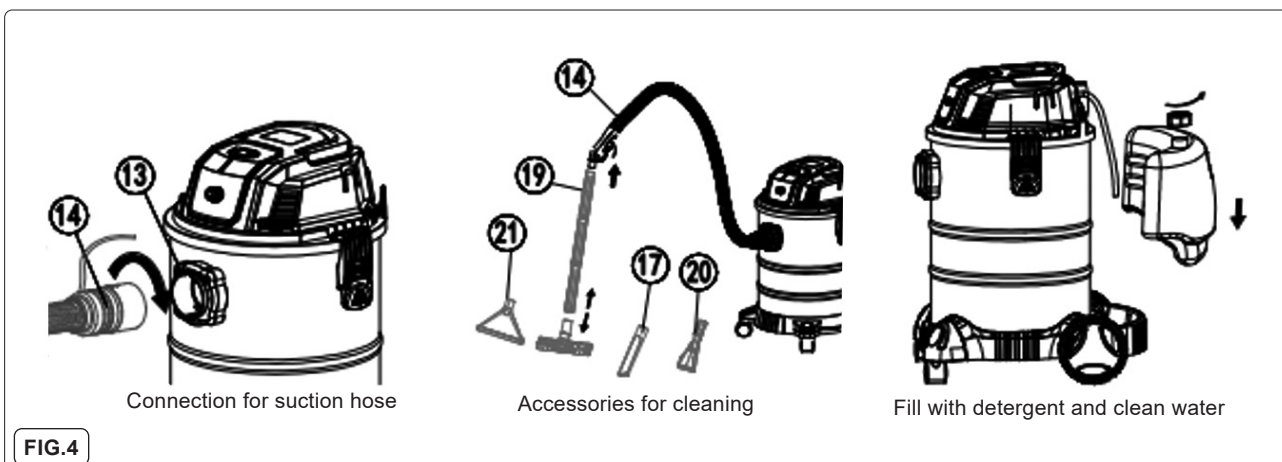

FIG.4
5.4. HOSE, TUBE, BRUSH & DETERGENT PIPE (FIG.4)